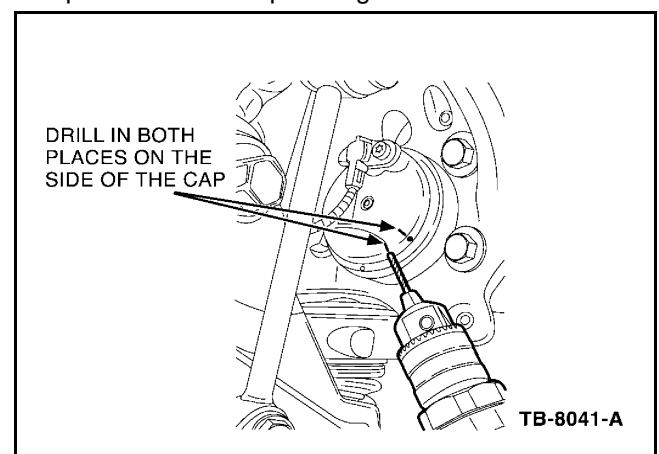

Figure 2 - Article 04-22-13
2. Vent the front bearing cap by drilling two (2) 1/16" diameter holes along outside edge of the cap, in locations shown on Figure 2 (illustrates driver's side bearing cap). Drill in approximately the 4 and 5 o'clock positions on the driver's side of vehicle, and the 7 and 8 o'clock positions on the passenger side of vehicle.